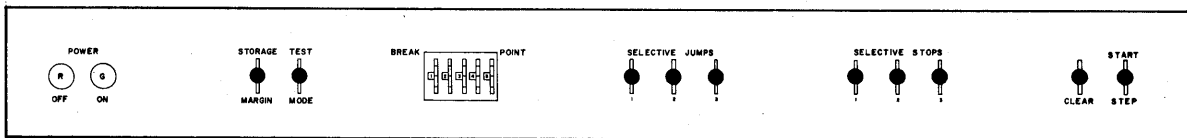

Figure 4-3. Manual Controls
- 1) Turn on power (Power On, figure 4-3).